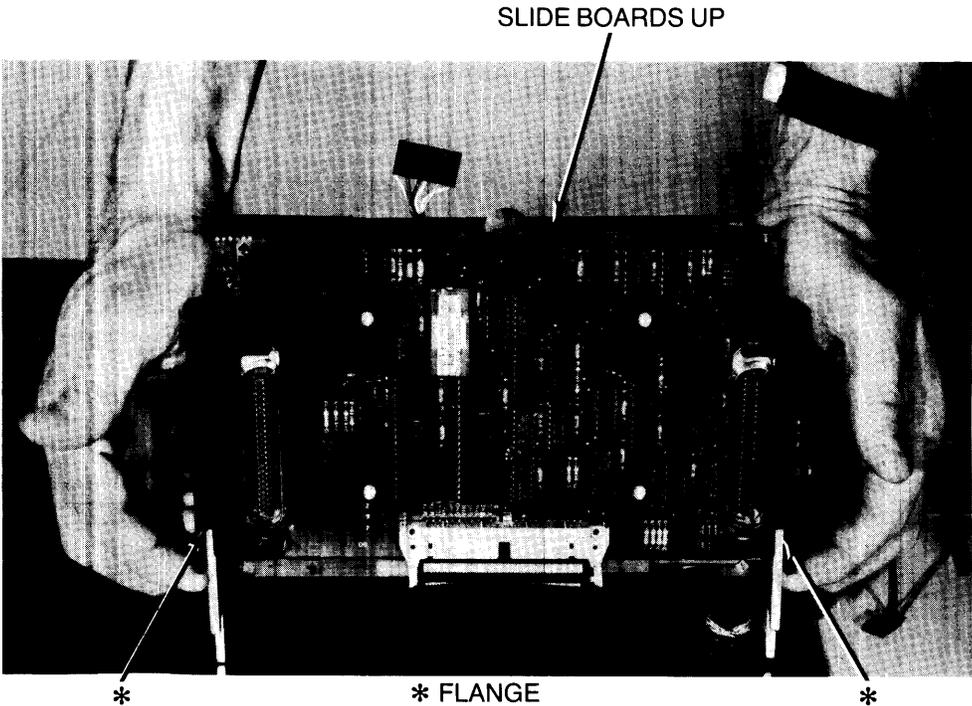

Figure 4-46. Removing Logic and Motor Drive Boards
- 6. Pull the snap ends of the black plastic flanges slightly outward and slide boards up and out of printer (Figure 4-46).